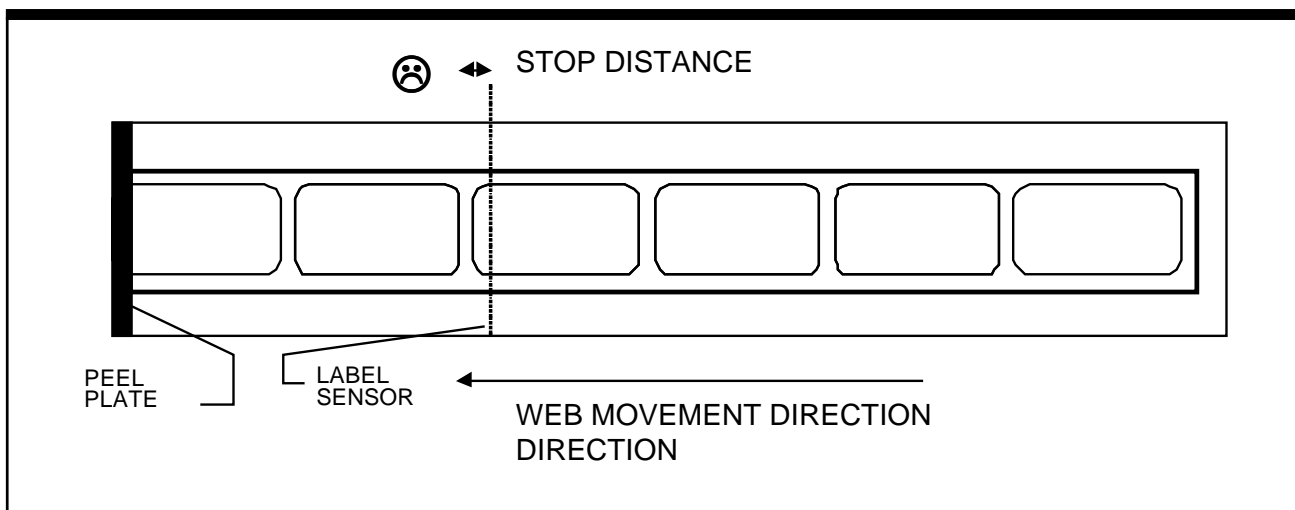

Figure 3-9. Inadequate Stop Distance for Sensor Placement
Step 5. Removing the Drive Motor. (See *Figure 3-9* and *3-10*.)